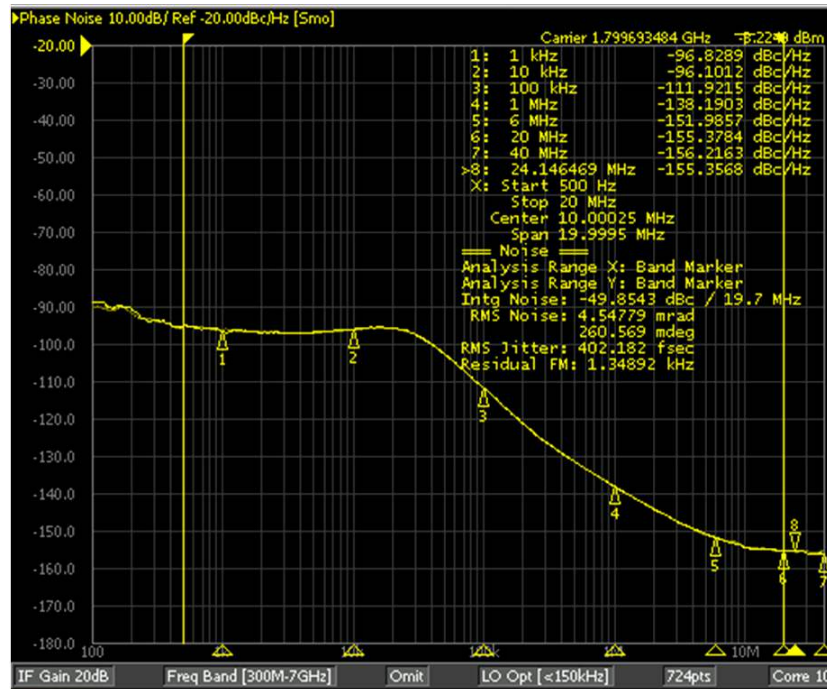

Figure 15. Integer Mode Phase Noise at 1800 MHz
- The TRF3722 phase noise at 1800-MHz frequency at the LO_OUTP SMA connector is shown in Figure 15.